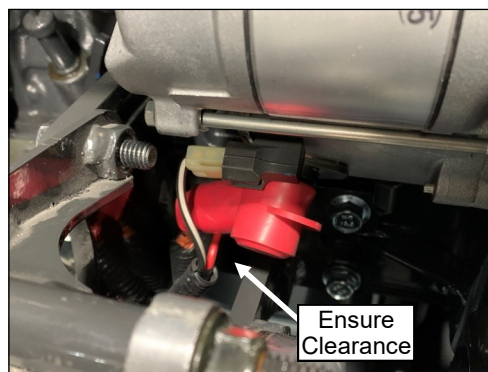

Fig. 6.4 (Re-Attach Starter Wires)
- 6.4 See fig. 6.4. With the compressor tilted all the way out in its adjustment slot, re-connect the two ring terminals to the stud on the starter and re-install the additional wire into the connector on the starter. Torque the stud to 5.9 to 11.8 Nm (4.3 to 8.7 lbf-ft)